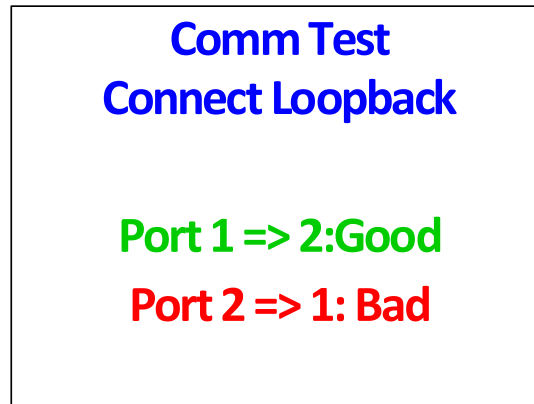

Figure 4-41 Serial Ports Diagnostics Menu
**Serial Ports** is used to test the two communication ports on the optional BFT10-0388 Relay/RS-485 Modbus Option Board. To test the Serial Ports connect A1 to A2 and B1 to B2, and set jumpers J3 and J5 to dual port mode, position B. The screen will then display a Good or Bad status report as shown in Figure 4-41.